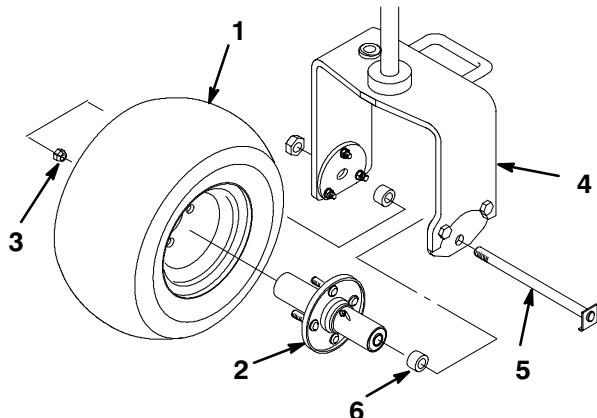

Figure 1
1. Mount the wheel hub to the rear wheel rim with (4) mounting nuts (Fig. 1). Torque the nuts to 70-90 ft-lbs.
2. Remove the wheel bolt and locknut from the wheel mount holes in the rear castor fork (Fig. 1).
3. Nut	6. Spacer (2)
5. Position the bend of the wheel bolt head under the bottom edge of the adapter plate (Fig. 1). Install and tighten the locknut to secure the wheel to the castor fork. Do not overtighten the locknut as the wheel must rotate freely.